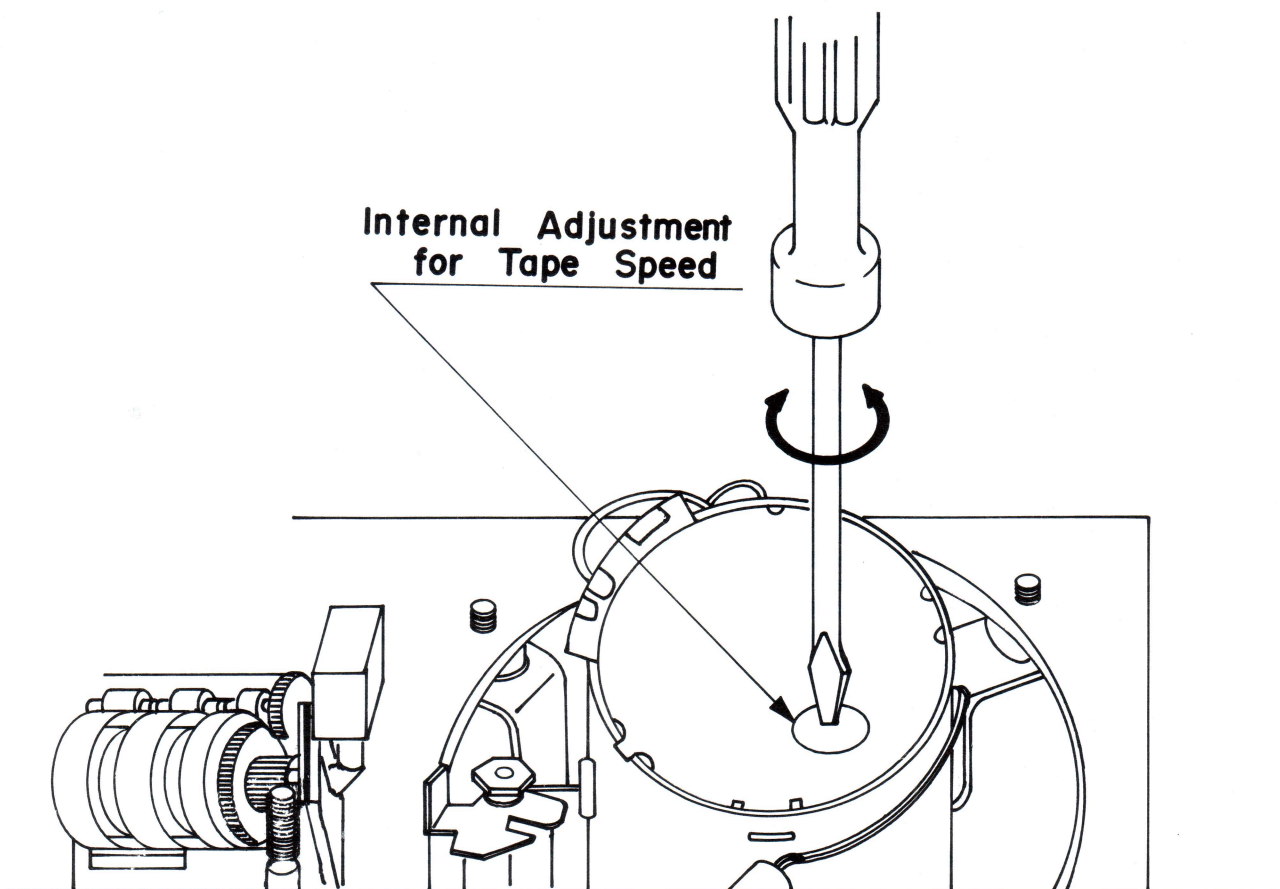

Fig. 3 Tape Speed Adjustment Location
3. Adjust the control located at the top of the meter for a reading of 3000 Hz $\pm$ 5 Hz on the frequency counter (fig. 3). (This tape speed alignment should be done after approx. 30 seconds operating time).